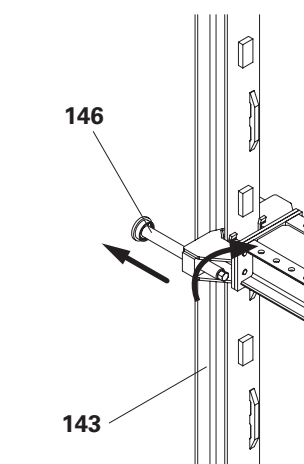

Fig. D2.06
7. Extend the Pressure Point Spindle M42 ACS (**146**) until the Climbing Rail ACS (**143**) swings freely and relieve the pressure on the Climbing Rail ACS (**143**). (Fig. D2.06)